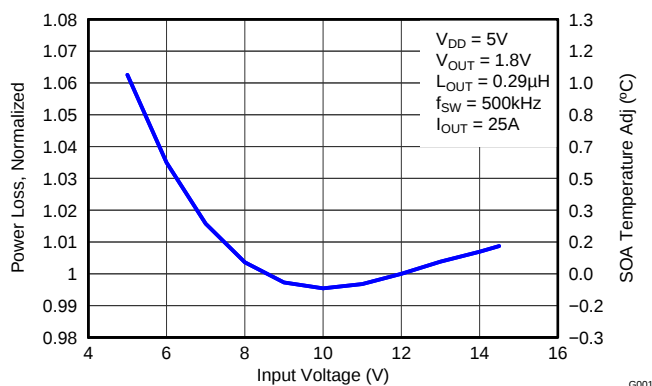

Figure 8. Normalized Power Loss vs Input Voltage
- Normalized Power Loss for input voltage  $\approx 1.02$  (Figure 8)
- SOA adjustment for input voltage  $\approx 0.3^{\circ}C$  (Figure 8)